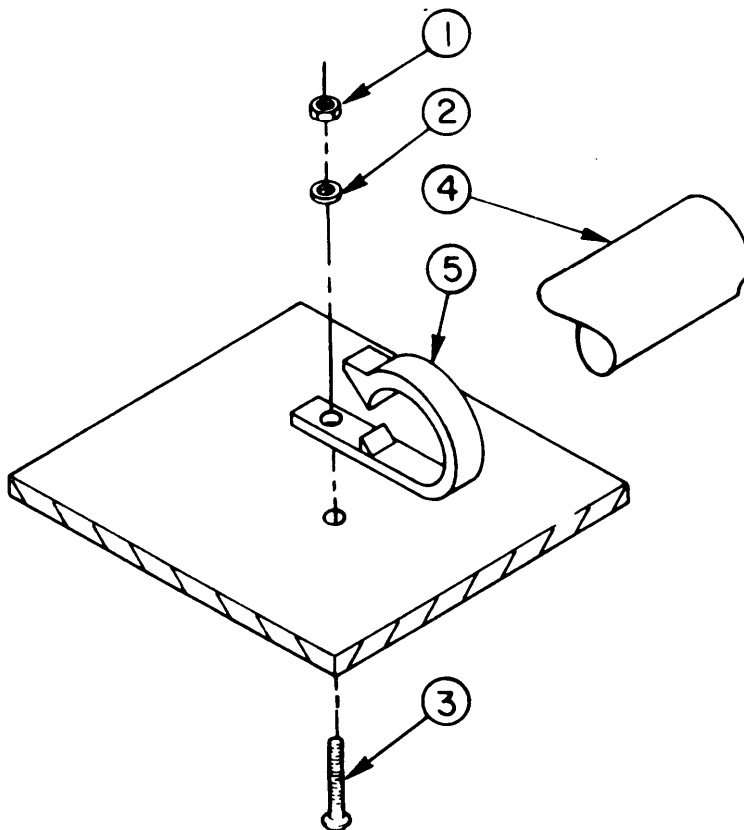
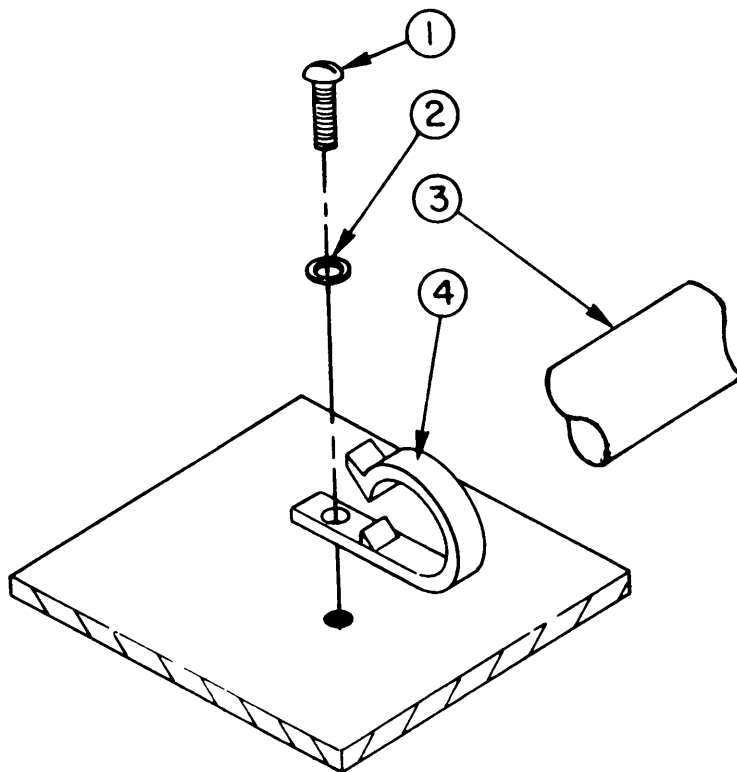

Figure 2-73. Control Box Assembly, Wire Harness/Cable, Clamp
Figure 2-74. ROWPU Frame, Wire Harness/Cable, Clamp
- (5) Remove one nut (3), one lockwasher (4), and one flat washer (5) from screw (7).
- (6) Remove cable clamp (6) from screw (7).
- (7) Remove screw (7) from junction box assembly.
c. Control Box Assembly. Wire Harness/Cable Clamp Removal. (Figure 2-73)
- (1) Disconnect terminals of wire harness (4) from all control box assembly components except power receptacle.
- (2) On each clamp through which the wire harness runs, remove one nut (1) and one lockwasher (2) from screw (3).
- (3) Remove screw (3) from cable clamp (5) and control box assembly.
- (4) If necessary, remove power receptacle in accordance with paragraph 2-61.
- (5) Remove wire harness (4) from control box assembly.
- (6) Unsnap and remove cable clamp (5) from wire harness (4).
d. ROWPU Frame, Wire Harness/Cable, Clamp Removal. (Figure 2-74)
- (1) Disconnect cable (3) from junction box assembly in accordance with paragraph 2-64
- (2) Disconnect cable from pump motor in accordance with appropriate paragraph.
- (3) On each clamp through which the cable runs, remove one screw (1) and one lockwasher (2) from ROWPU frame and clamp (4).
- (4) Remove cable (3) from ROWPU.
- (5) Remove cable clamp (4) from cable (3).
- (1) Insert screw (7) in junction box assembly.
- (2) Install cable clamps (6) on screws (7).
- (3) Install flat washer (5), lockwasher (4), and nut (3).
- (4) Lay wire harness (2) in cable clamp (6).
- (5) Install tiedown strap (1) in each cable clamp (6) and tighten.
- (6) If necessary, install power receptacle into junction box assembly in accordance with paragraphs 2-60 or 2-61.
- (7) Connect all tagged wire terminals of wire harness (2) to all junction box assembly components except power receptacles.
h. Installation, Control Box Assembly, Wire Harness/Cable, Clamps. (Figure 2-73)
- (1) Snap cable clamp (5) over wire harness (4) approximately at mounting location.
- (2) Place wire harness (4) in control box assembly approximately in its mounting location.
- (3) Slide cable clamp (5) along wire harness to its mounting hole.
- (4) Insert screw (3) through mounting panel and cable clamp (5).
- (5) Install lockwasher (2) and nut (1), finger-tight, on screw (3).
- (6) Repeat steps (1) through (5) for each cable clamp.